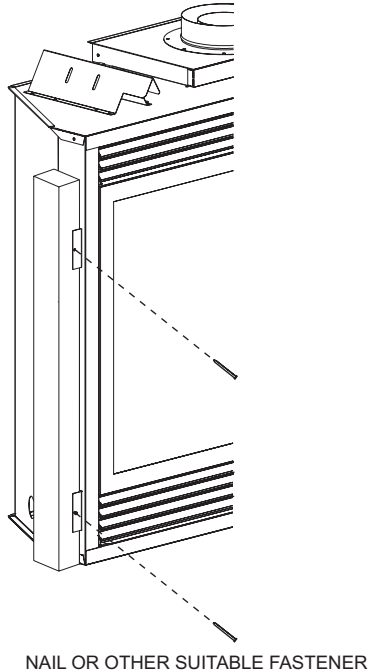

Figure 11
Flush Mount Mantel Installation (Figure 11)
The fireplace must extend 3/4" beyond finished wall surface when using a flush mount mantel. Refer to Figure 11 to locate nailing flanges on fireplace sides. Mark and drill two (2) 1/8" holes into fireplace side to mount each nailing flange. Use eight (8) 1/2" hex-head screws supplied in hardware package to attach nailing flanges to fireplace sides.
Attention: When fireplace is installed in optional full cabinet mantel or corner mantel the (4) four nailing flanges shown in Figure 11 will not be installed on the side of outer casing. The fireplace will be attached to the full cabinet mantel or corner mantel with the (2) two nailing flanges located on the top of the outer casing assembly.